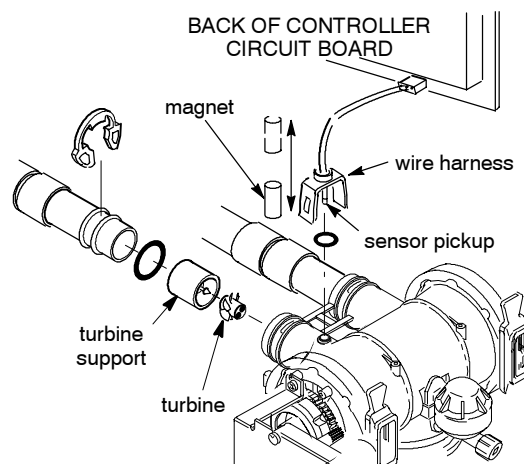

FIG. 134
6. If the display reading does not change with the faucet open, pull the wire harness from the valve outlet port (See Figure 134).